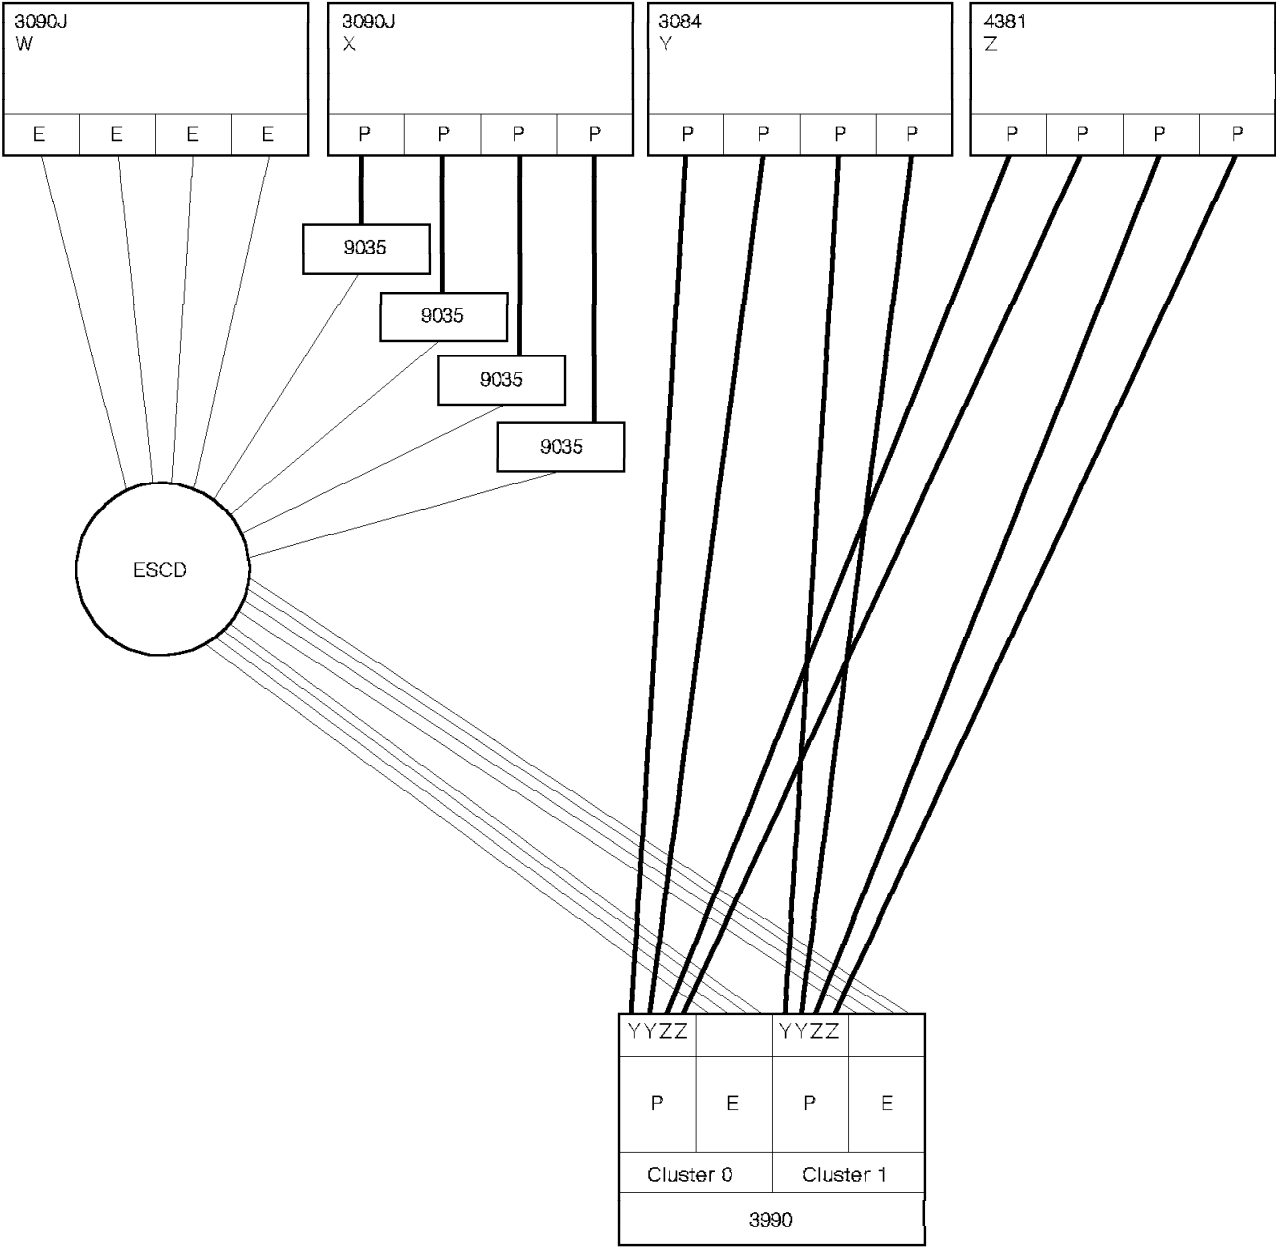

Figure 24. Initial Installation of ESCON Channels on Host W, with 9035s Used to Access the 3990 from Host X
Figure 24 shows a possible configuration after the installation of the ESCON channels on the first processor (W). In this case, 9035s are used to provide connectivity for the second processor image (X).